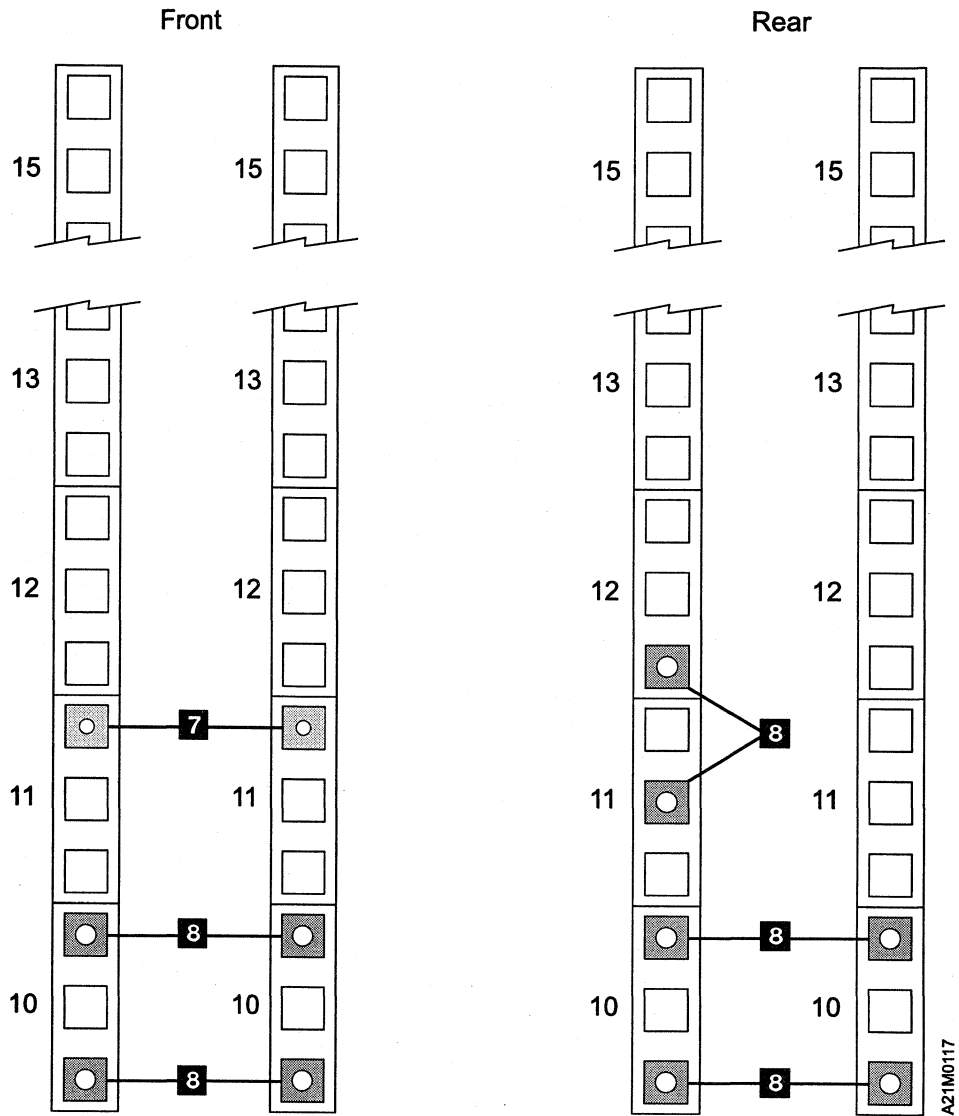

Figure 55. EIA Specification
- | a. When you are installing either Model C21 or Model C22 in a rack, you are instructed to locate components by Electronic Industry Association (EIA) rack unit and hole location. An EIA unit is composed of three holes. (See Figure 55 on page 77 for an example.) All hole locations are specified within contiguous EIA rack units, and are square shaped.
- | \_\_\_\_\_ Step 3. Locate the physical area in the rack where the 3570 is to be installed. See Figure 55 on page 77 as your reference for the captured nut locations. The front view shows the frontal left and right EIA strips as viewed from the rack front. The rear view shows the rear right and left EIA strips as viewed from the back of the rack. Items **7** and **8** refer back to the list of items in Figure 53 on page 75.
- \_\_\_ Step 4. **Read the following before doing steps 5a, 5b, 5c, and 5d.** These caged nuts must be pressed into the square hole [using a flat blade screw driver]. Once they are seated, they will maintain their position. Next, using the Allen wrench **11** supplied, insert the socket button head screws **6** through the EIA strip and into the caged nuts **8**. Leave the screws loose enough to insert the slide mounting brackets **32** between the screw head and the EIA strip **31**. See Figure 55 on page 77 for referencing captured nut installations.